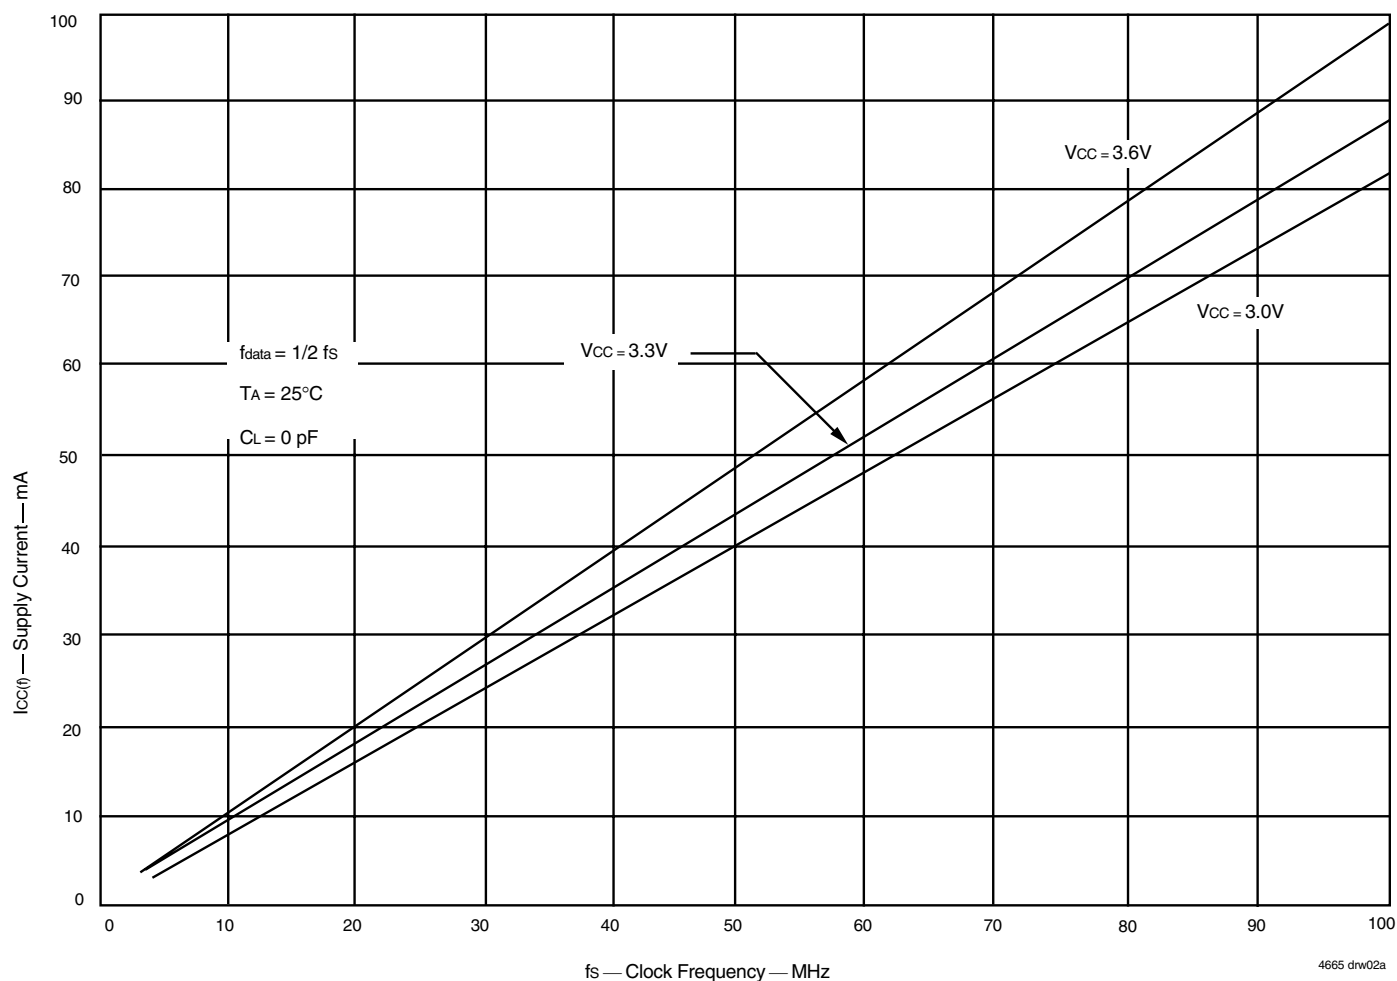

Figure 1. Typical Characteristics: Supply Current (I_{CC}) vs. Clock Frequency (f_s)
- For additional I_{CC} information, see Figure 1, *Typical Characteristics: Supply Current (I_{CC}) vs. Clock Frequency (f_s)*.
The $I_{CC(f)}$ current for the graph in Figure 1 was taken while simultaneously reading and writing a FIFO on the IDT72V3656/72V3666/72V3676 with CLK A, CLK B and CLK C set to f_s . All data inputs and data outputs change state during each clock cycle to consume the highest supply current. Data outputs were disconnected to normalize the graph to a zero capacitance load. Once the capacitance load per data-output channel and the number of these device's inputs driven by TTL HIGH levels are known, the power dissipation can be calculated with the equation below.
With $I_{CC(f)}$ taken from Figure 1, the maximum power dissipation (P_T) of these FIFOs may be calculated by: